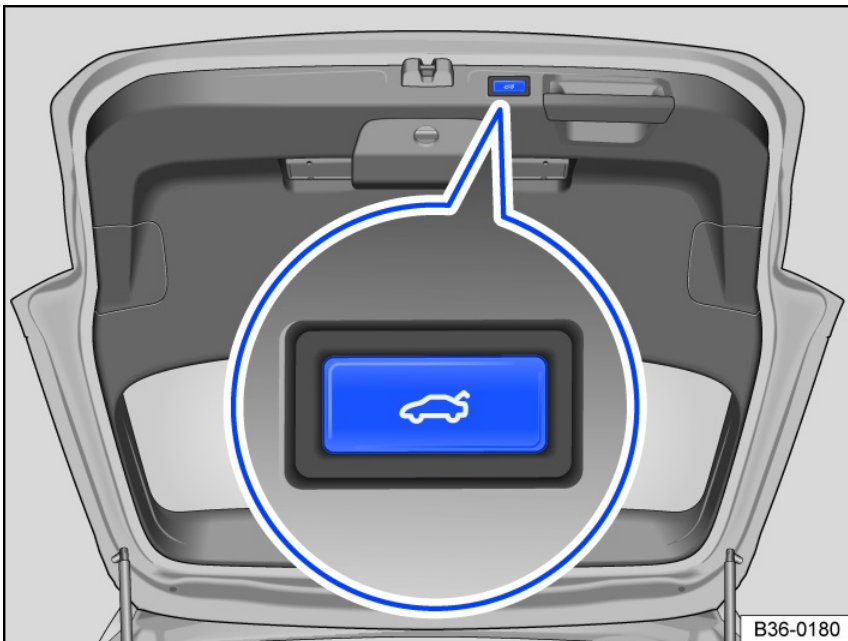

Fig. 61 In the open trunk lid: Button for power closing the trunk lid.
1. Press the button in the trunk lid when it is open fig. 61.
Or: press the button on the trunk lid while the lid is opening or closing fig. 61.
2. Press and hold the  button in the trunk lid until the emergency flashers start flashing fig. 61.